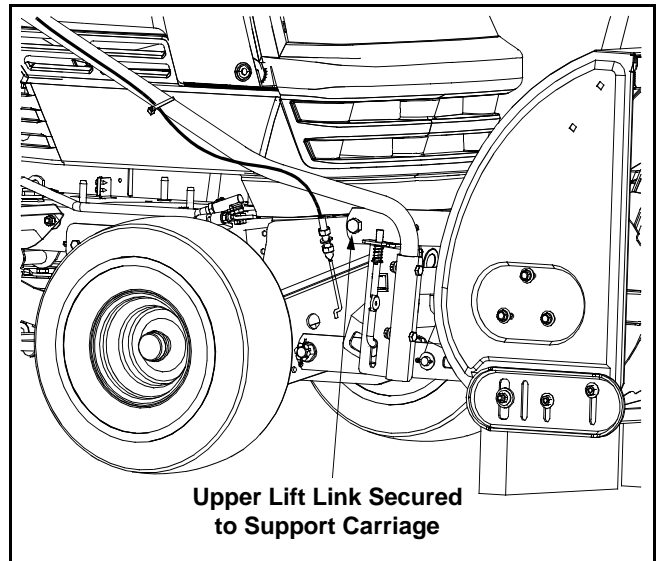

Figure 13
13. Reinsert the hex screws removed in Step 11 through the aligning holes and secure the upper lift links to the support carriage by fastening with the hex nuts also removed in Step 12. See Figure 13.